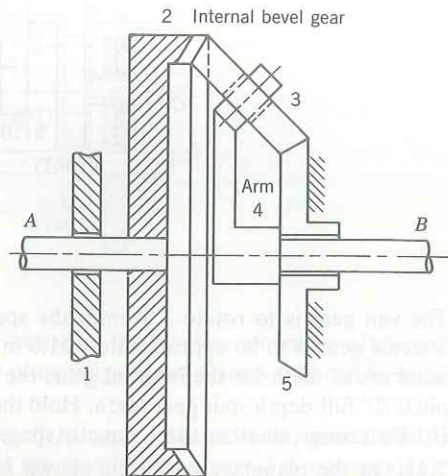
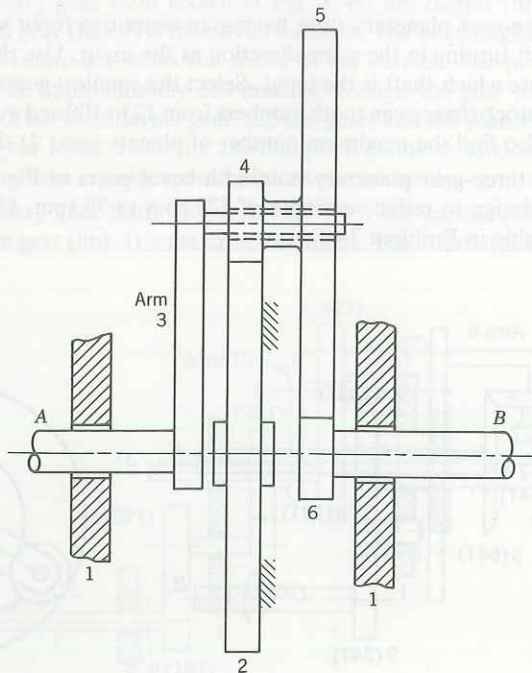

FIGURE 7.50
FIGURE 7.51
- 7.43. Refer to the three-gear planetary train with bevel gears of Fig. 7.50 and find the most conservative design to reduce an input of 125 rpm to 75 rpm. Use the same range of tooth sizes available in Problem 7.42.
7.44. Design a planetary gear train with an output to input speed ratio of 1:142, with the output shaft turning opposite the input. Use the three-gear configurations of Fig. 7.49 and Fig. 7.50 or the basic four-gear planetary train shown in Fig. 7.51. Available stock sizes for bevel and spur gears are as follows: all tooth numbers from 12 to 40 and even tooth numbers from 40 to 180. Sketch the selected gear train and indicate the input shaft.